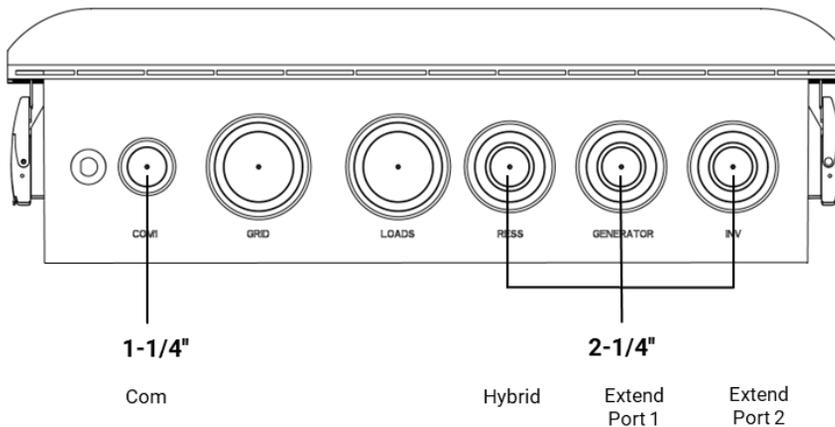

Figure 4. RESS and COM Knockouts
d. Drill out Smart Gateway COMS and the Hybrid port to mount conduits: (Ref. Figure 4)